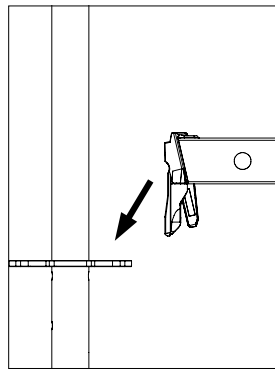

Fig. A4.01
2. Depending on the load, install Ledger UH (5) or Heavy-Duty Ledger UHV (4) as support for the decking.
3. Install Ledgers UH (5) as guardrails. (Fig. A4.01 + A4.02 + A4.02a)